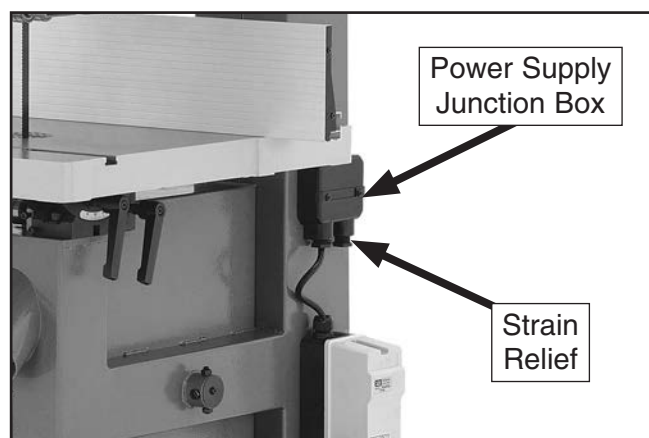

Figure 40. Power supply junction box on rear of bandsaw.
2. Remove the power supply junction box cover from the right rear of the bandsaw (see **Figure 40**). It is secured by two screws.